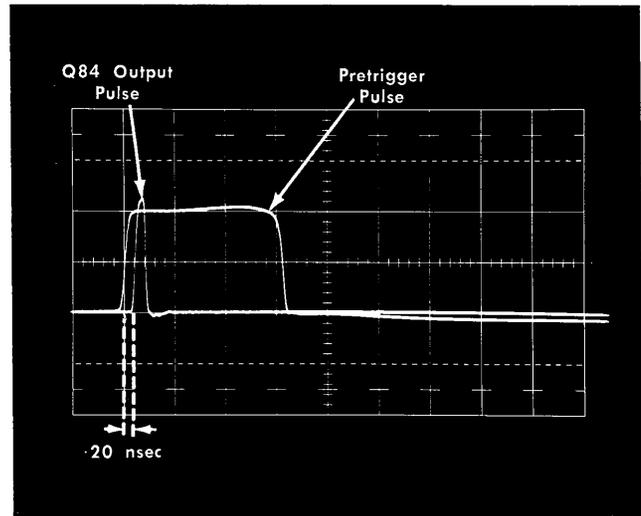

Fig. 5-9. Double exposure of Pretrigger Pulse and Q84 Output Pulse with VARIABLE control set to MIN and R54 (MIN DELAY) adjusted correctly.
b. Check that the pulse rise now occurs 20 nsec later than the Pretrigger Pulse. (The rise should now occur 1.2 major divisions from the left edge of the graticule.) See Fig. 5-9.